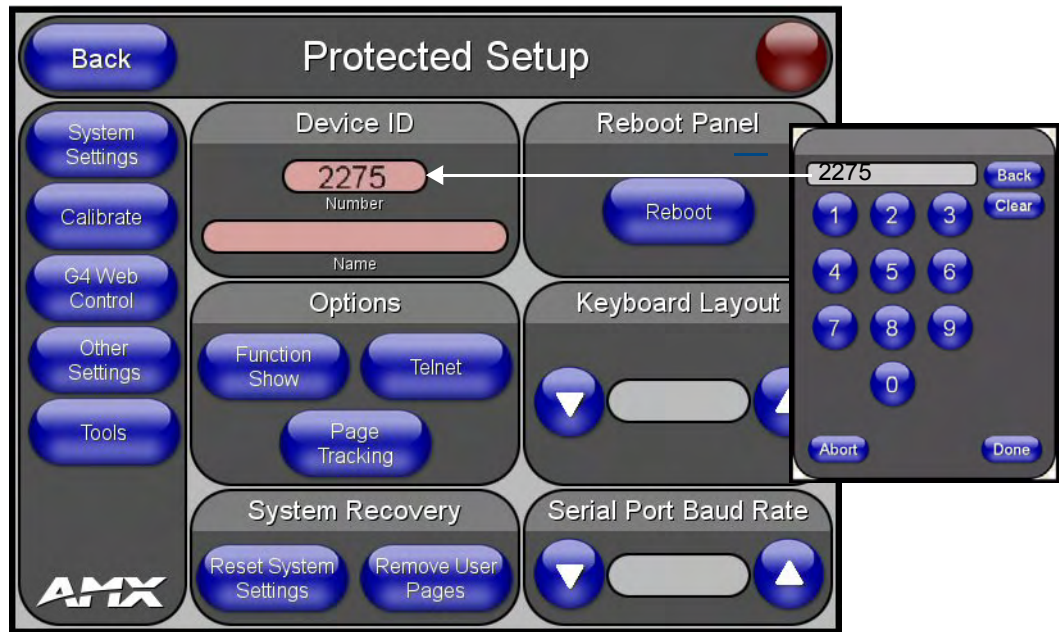

FIG. 36 Protected Setup page with Keypad
- b. Press **Done** to close the keypad (FIG. 36).
3. Enter a **Device Number** value for the TPI-PRO/DVI (FIG. 36):
3. Press the **System Settings** button (on the *Protected Setup* page - see FIG. 36) to open the *System Settings* page (FIG. 41).
1. Press the **System Settings** button on the *Protected Setup* page (FIG. 36 on page 41) to open the *System Settings* page (FIG. 41 on page 43).